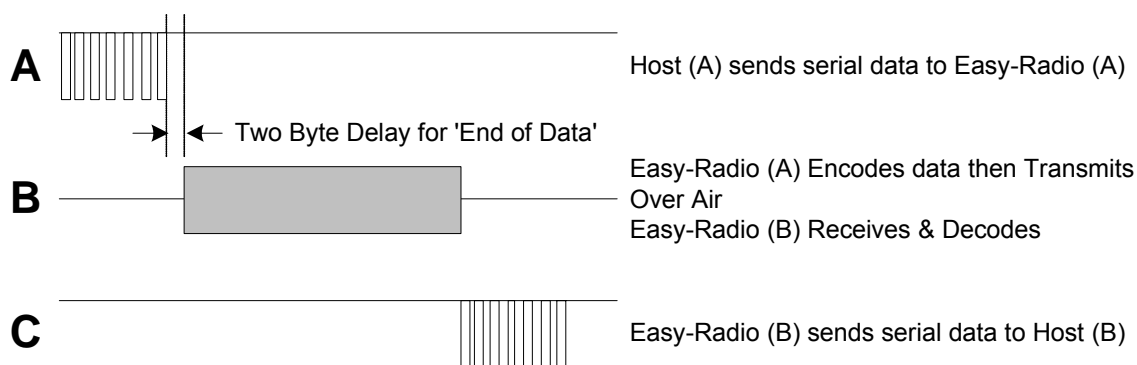

Figure 6 Serial Data
The Host (A) should provide the serial data input (up to a maximum 180 characters per packet) to the Easy-Radio transmitter. The data should be sent in 'bursts' therefore allowing adequate time for transmission and reception over the RF link (See Figure 6). The receiver, upon reception and decoding of the RF transmission immediately sends serial data to the Host B.